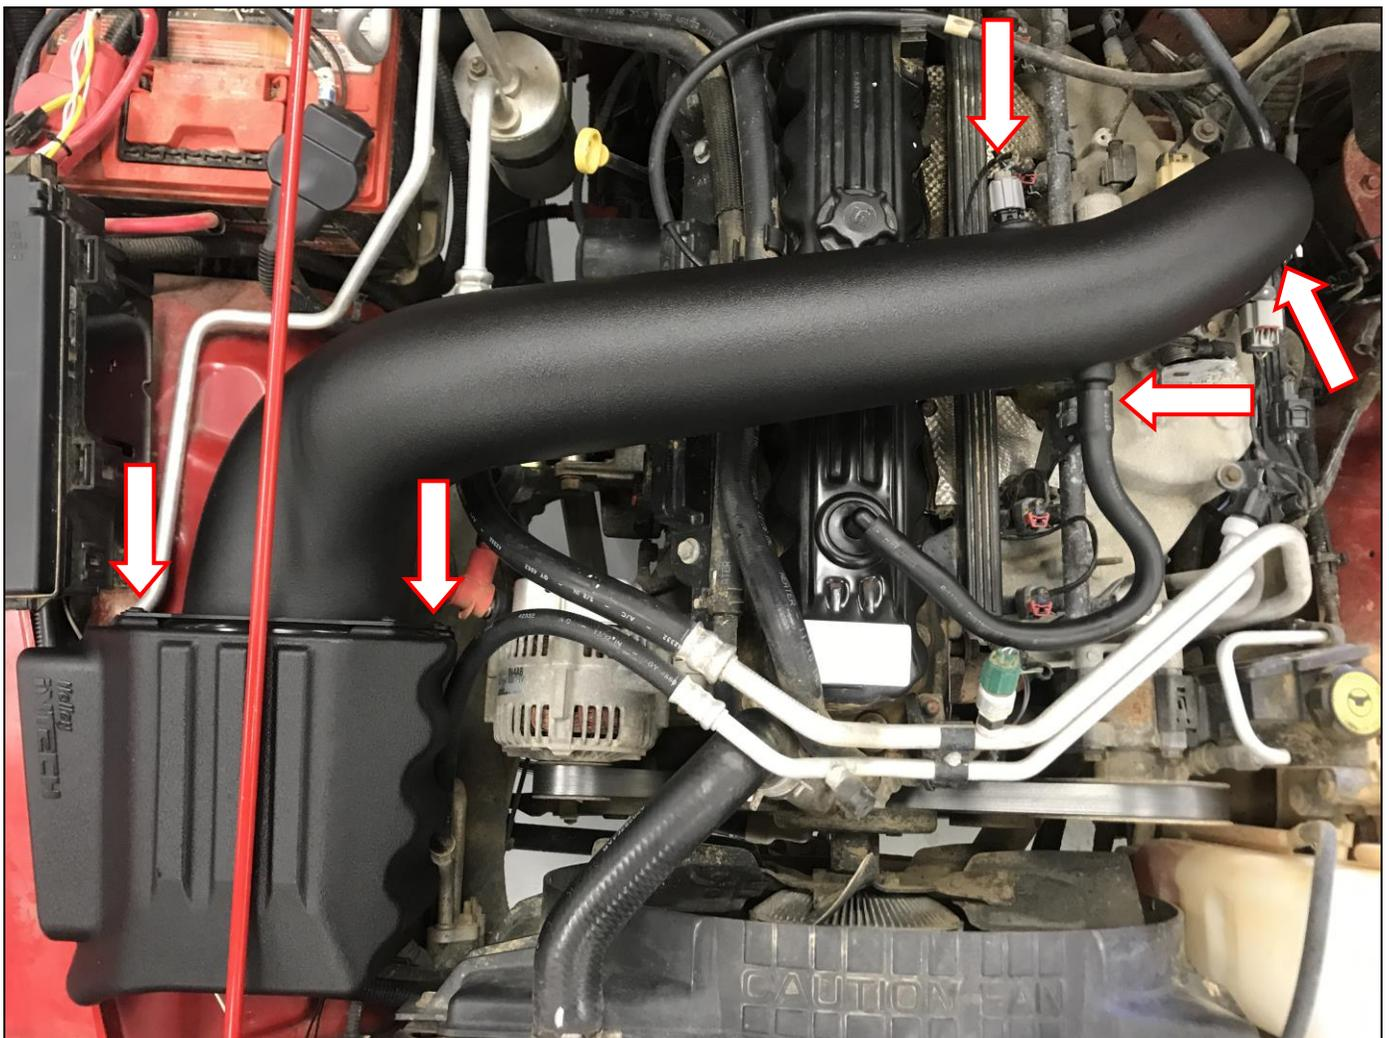

Figure 6
15. Insert the filter into the housing, pressing firmly around the filter until bottomed out **(Figure 6)**.
16. Slip the provided metal ring over the large end of the iNTECH tube, then insert the tube into the air filter until you feel a 'lock' **(soap and water or equivalent will help) (Figure 6)**.
17. Rotate and align the tube with the throttle body and coupling, then insert the tube into the coupling **(Figure 6)**.
18. Align the holes in the ring with the (x4) brass inserts in housing and secure with the provided M6 screws **(Figure 6)**.
19. Install the remaining hose clamp over the coupling and tighten **(Figure 6)**.
20. Reconnect the CCV hose to the iNTECH tube, or use provided rubber hose if factory hose is damaged **(Figure 6)**.
21. *****For 2005 & 2006 Models:** Reconnect the temp sensor wiring harness to the temp sensor on the intake tube **(Figure 6)**.
22. Reinstall the strut bar on the passenger's side **(Figure 6)**.